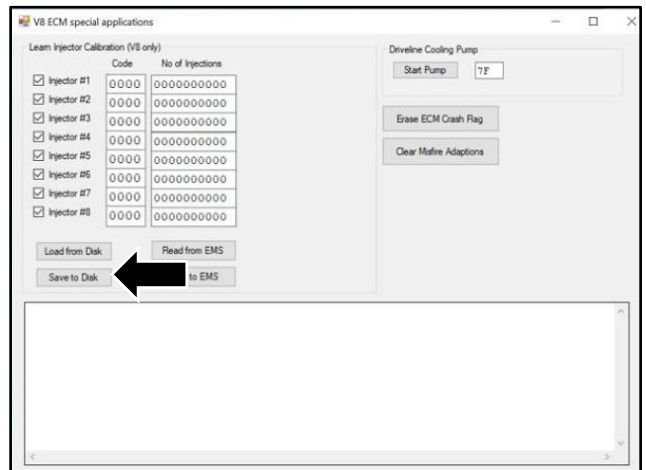

Figure 8
17. Select "Save to Disk" to store the injector coding (refer to Figure 8).